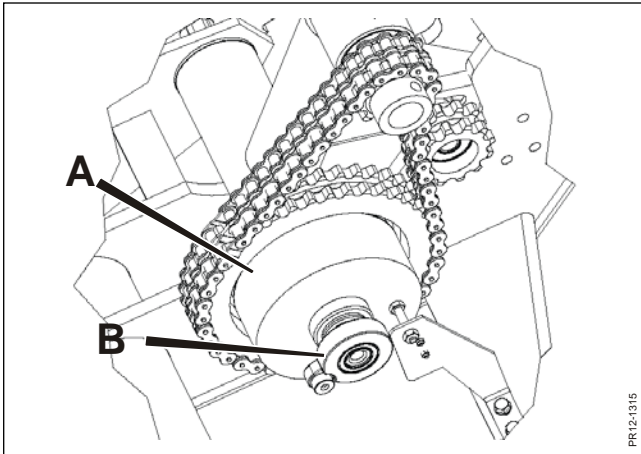

Fig. 5-6
**Fig. 5-6** To secure against misuse after a metal detection and to ensure that possible metal has been removed before restarting, the electronics does not allow normal feed intake function until the feed intake has reversed.